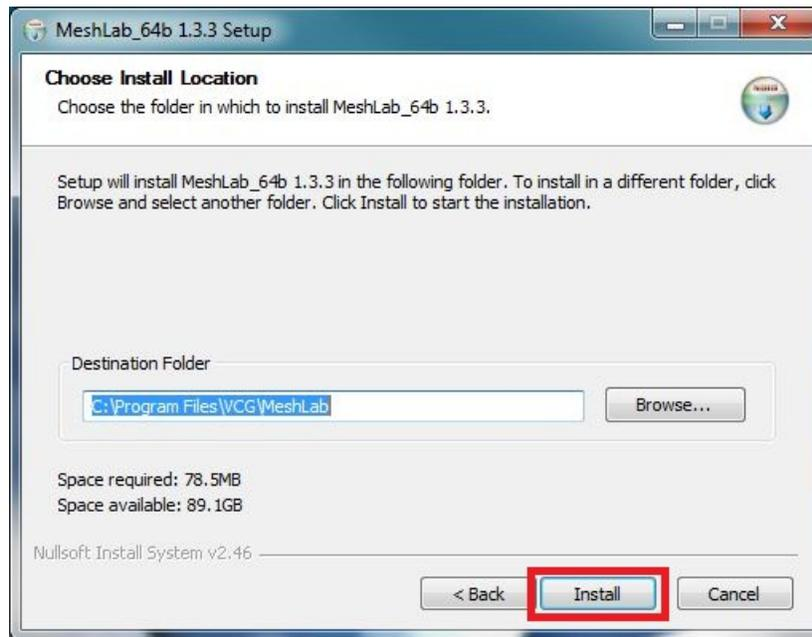

Figure 2-17. MeshLab Installation Path
4. Choose the installation directory for the MeshLab program, shown in Figure 2-17.